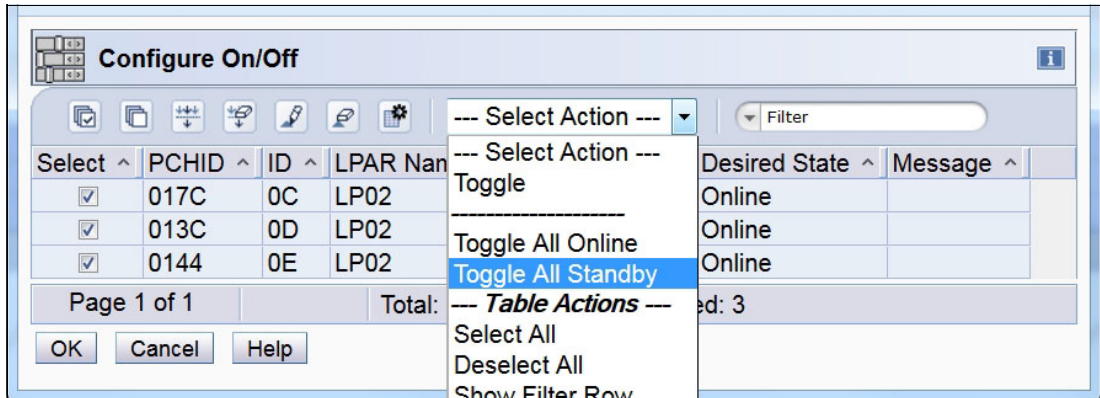

Figure 10-27 SE: Config On/Off (online - toggle all standby)
- Select the logical partition whose Crypto IDs you want to change to Standby. For example, select CCA coprocessors (02), EP11 coprocessor (03), and cryptographic accelerator (06) that are currently in an online state. Click **Tasks** → **Crypto Service Operations** → **Configure On/Off task**
- Select the cryptographic coprocessor channel numbers that you want, and click **Select Action** → **Toggle All Standby** to switch from **Online** to **Standby** (Figure 10-27 on page 565).